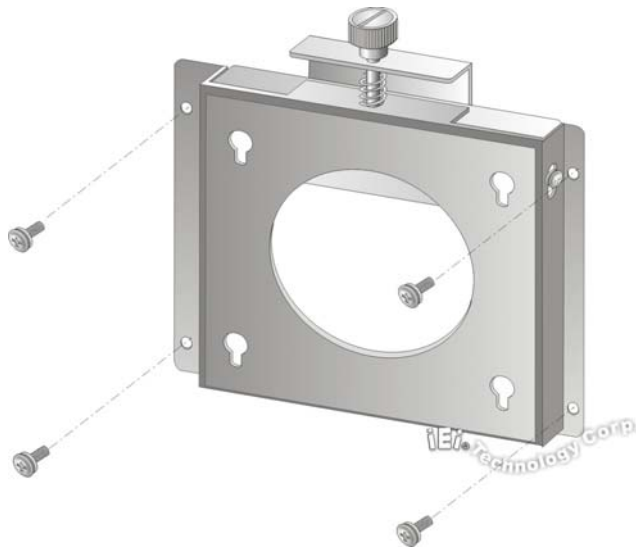

Figure 3-7: Wall-mounting Bracket
Step 5: Secure the mounting-bracket to the wall by inserting the retention screws into the four pilot holes and tightening them (Figure 3-7).